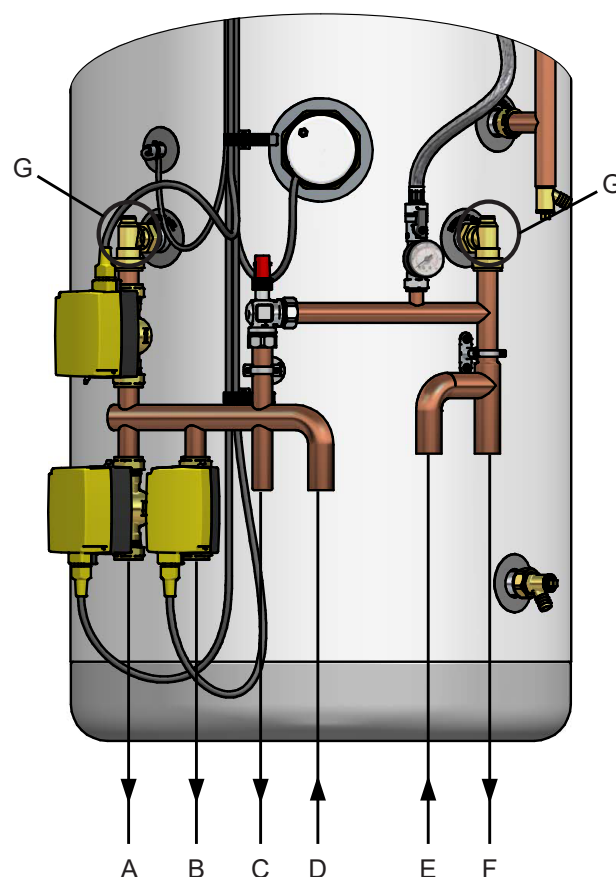

Figure 3-1: Primary circuit connections
Make the primary circuit and heat pump connections to the cylinder as follows (Refer to Figure 3-1):
1. The primary flow and return connections from the heat pump should be made to cylinder connections D and F respectively (refer to Figure 3-1 and Table 3-1).
2. The primary flow to heating zone 1 should be made to cylinder connection A (refer to Figure 3-1 and Table 3-1).
3. The primary flow to heating zone 2 should be made to cylinder connection B (refer to Figure 3-1 and Table 3-1).
4. If required, the primary flow to heating zone 3 should be made to cylinder connection C (refer to Figure 3-1 and Table 3-1).
If a third heating zone is required, the tail of pipe C (see Figure 3-1) will need to be trimmed as it has been soldered shut during production.
If a third heating zone is to be connected to cylinder connection C (refer to Figure 3-1), the pipe tail should be cut using a suitable pipe slicer or pipe cutter - to leave the pipe ends with a slight radius and free from any burrs or sharp edges.
5. When filling the primary circuit, the manual air vents situated on the flow and return connections to the indirect coil can be used to vent air from the indirect coil (refer to item G in Figure 3-1).
To prevent gravity circulation when the heat pump switches off, three 2-port motorised valves have been supplied fitted to the cylinder after the primary flow pipe from the ASHP (see item D, Figure 3-1). They are pre-wired in accordance with Figure 4-2 to ensure that, when used with a Grant Aerona Heat Pump, the installation will comply with current legislation.
Table 3-1: Key to Figure 3-1
A 18 litres per minute flow restrictor (supplied) has to be installed in the primary coil in the ASHP flow connection (See item D in section 3.5 in Figures 3.1 and Table 3-1) if an ASHP is to be used as a primary heat source. Otherwise it won't be required.